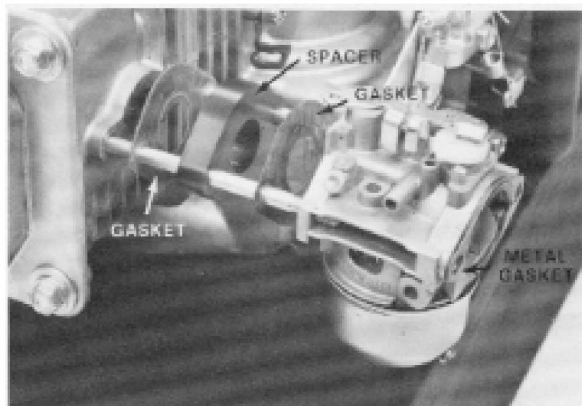

Figure 3-10
7. Mount the gaskets and spacer on the studs. The correct sequence is described in Fig. 3-10.